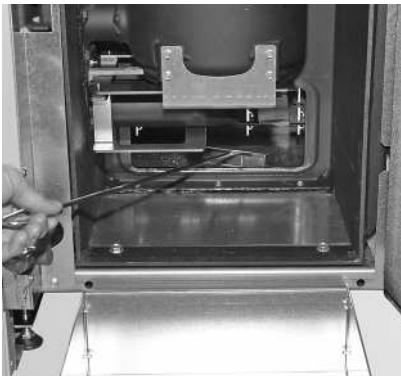

Fig. 29 Remove ash from below heat exchanger into ash pan
- ▶ Use the scraper to remove ash from underneath the heat exchanger into the ash pan – Fig. 29.